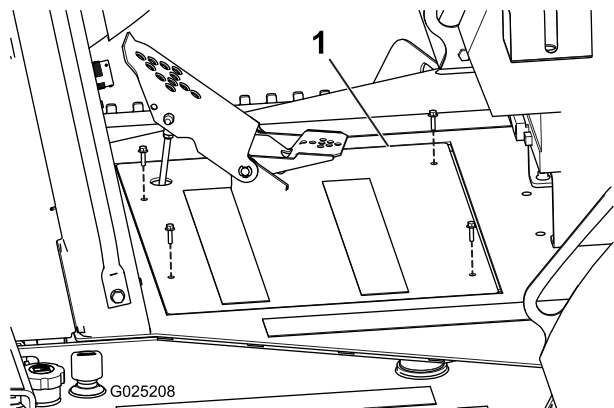

Figure 1
1. Remove the four bolts securing the foot plate to the frame and remove the plate (Figure 1).